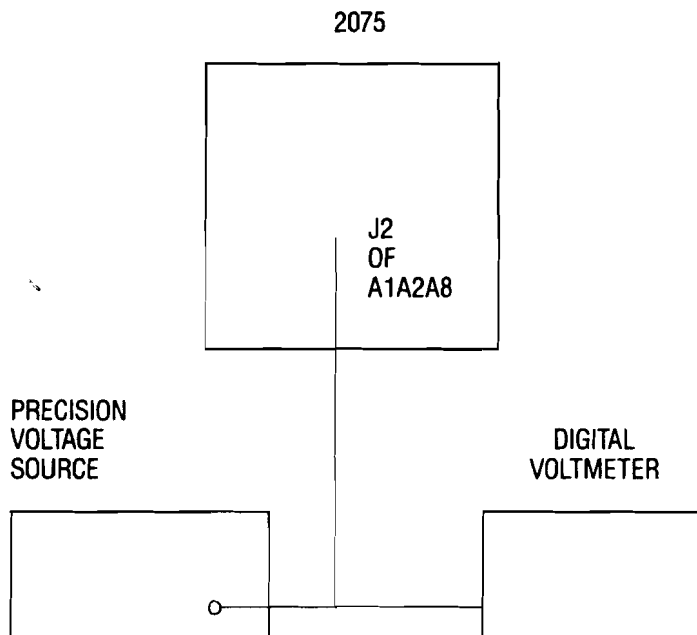
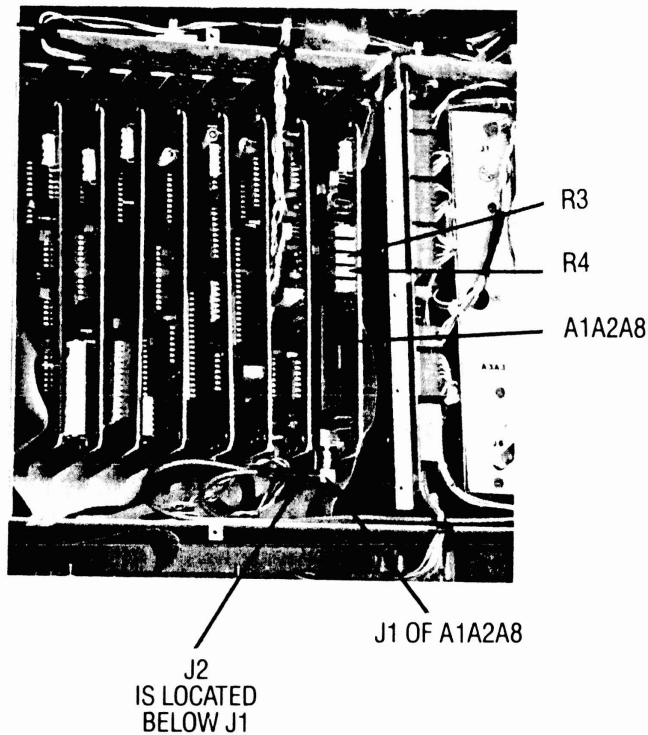

Figure 3-13. A TO D CONVERTER ADJUSTMENT SETUP
Figure 3-14. LOCATION OF J2 OF A1A2A8
1. Set up the test equipment as shown in Figure 3-13. Disconnect the cable from J2 of assembly A1A2A8. Connect the test cable from the output of the precision voltage source to J2. The location of J2 is shown in Figure 3-14.
6. If necessary, adjust variable resistor R3 of A1A2A8 to obtain the displayed value described in Step 5. See Figure 3-14.